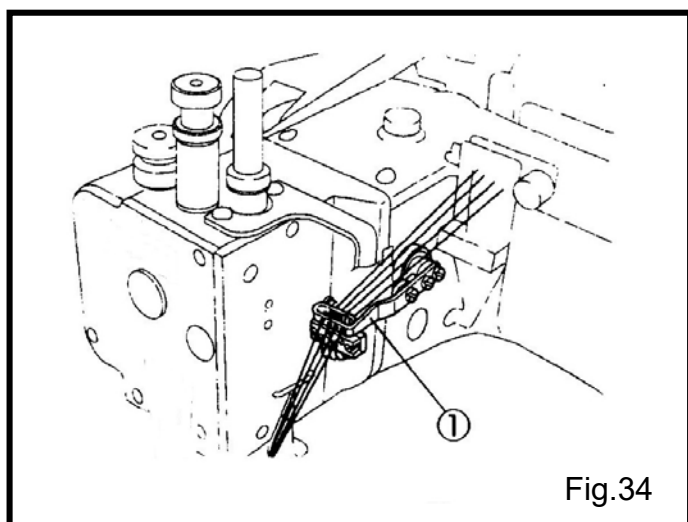

Fig.34
- (1) 抬線架①轉到最低位置。(Fig.34)
- (1) Position the needle thread take-up① at the lowest point. (Fig.34)